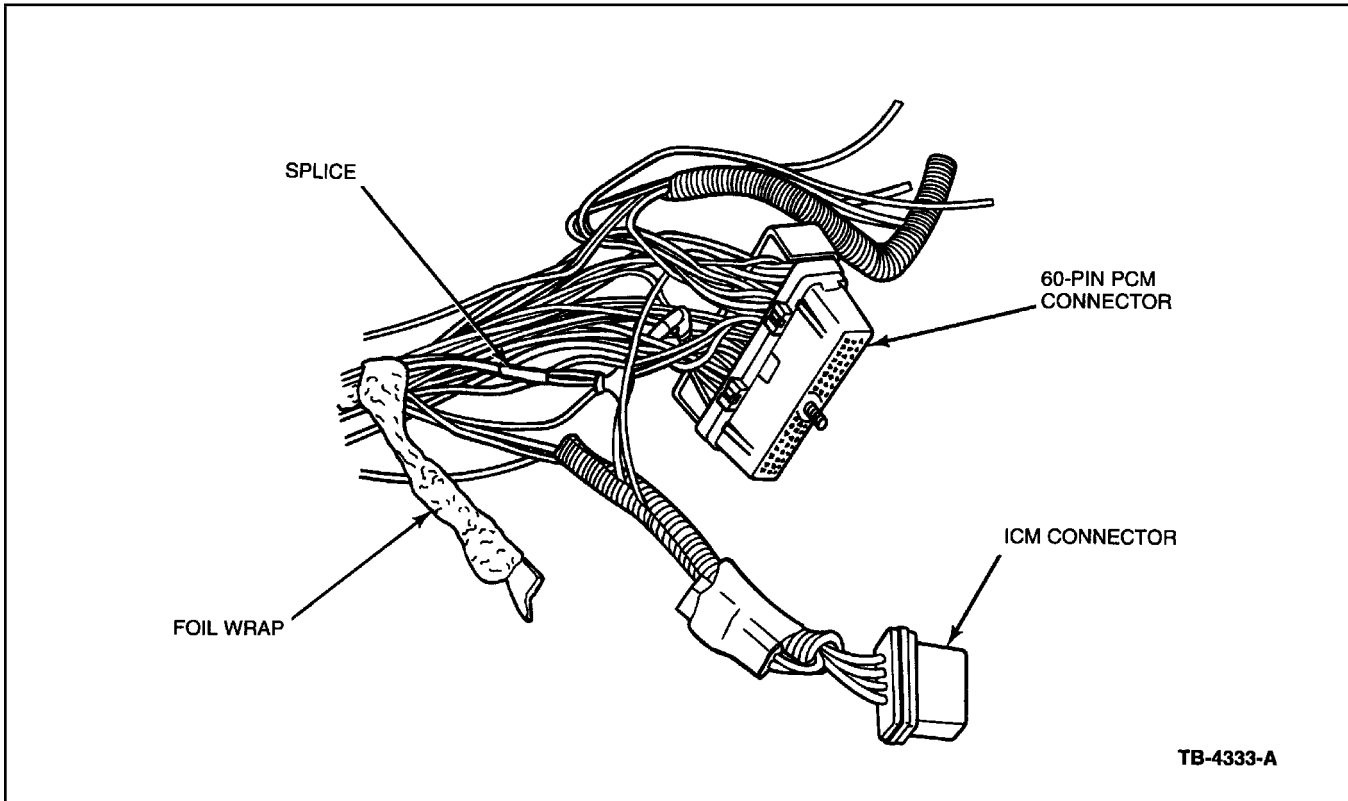

Figure 3 - Article 95-15-11
10. Inspect for any damage to the insulation of the three (3) wires in question. If wire insulation is cut, exposing copper wire, repair cut insulation with 3M Electrical Moisture Sealant-Mastic Tape (3M Part No. 054007-06147).
11. Inspect Splice 145 - Circuit 395 (GY/O) for stray wire strands (Figure 3). If stray wire is found, apply pressure on the wire with pliers to bend the wire down and wrap the splice with three (3) layers of flame retardant vinyl tape, or equivalent, to ensure the wire does not make contact with other wires or the foil wrap.